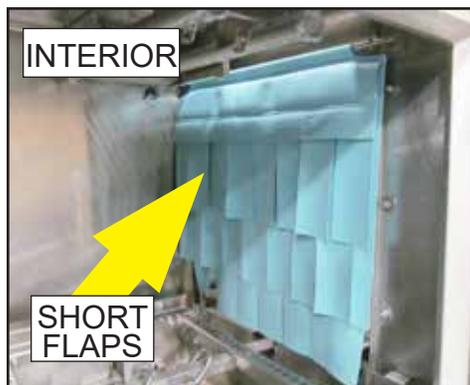

Fig. 86 -
- 1 Curtain rods hang on built-in hooks. Hang one long curtain at the entrance of the front feed section and another long curtain at the exit end of the front feed section, Fig. 86. **MAKE SURE THE SHORT FLAPS FACE THE LOAD END.**